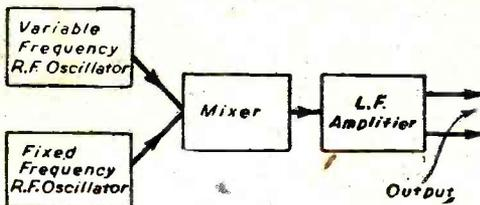

Fig. 1.—Block schematic diagram of a conventional B.F.O.
**A**UDIO-FREQUENCY oscillator design generally follows that of the conventional beat-frequency oscillator, where the output from a variable frequency R.F. oscillator is mixed with the output from a fixed frequency R.F. oscillator operating at a slightly different frequency, the beat note thus obtained being amplified and passed to the output terminals of the instrument as Fig. 1 schematically depicts. Most readers are no doubt familiar with the process, a practical circuit having been described a few months ago in this journal.